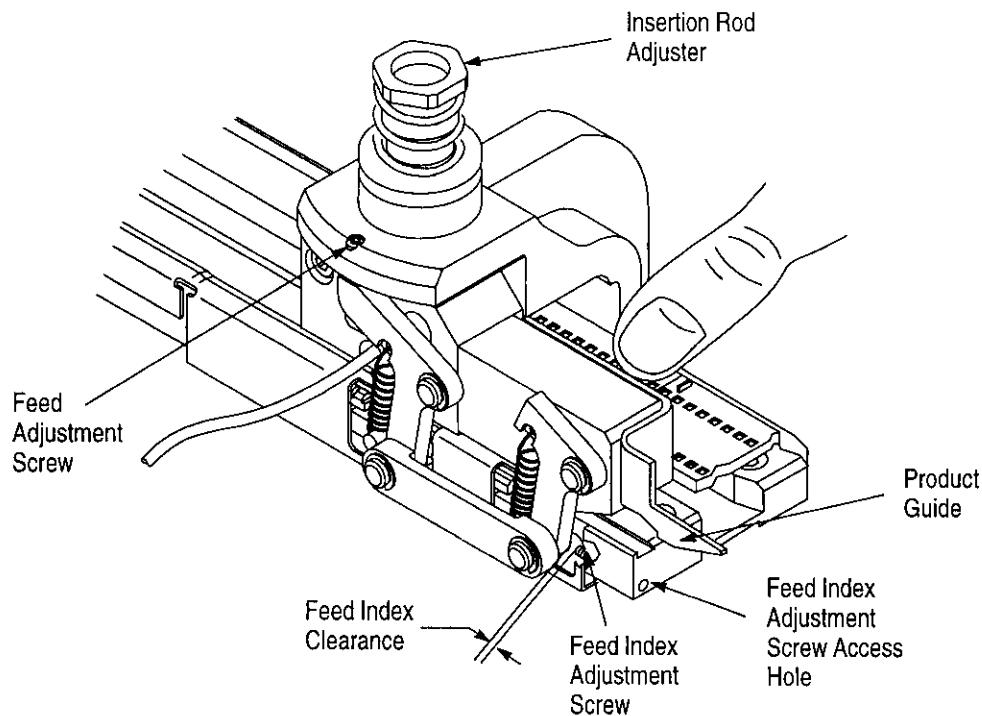

Figure 3
*Product guide (PN 679689-1 – see Figure 3) is to be installed when the MTE tube feed assembly is used to terminate connectors that are unloaded from tube PN 661042-1. This guide is to be removed (and saved) when the connectors are unloaded from tube part numbers 112150-1 and 112151-1.*
*Receptacle and nonlatching pin housing connectors are packaged in either tube part number 112150-1 or 112151-1 and therefore do not require the installation of the product guide. Remove and retain the product guide (see Figure 3). The guide must be removed to prevent damage to the connectors being fed to the insertion station.*
Shrouded pin housings are packaged in tube part number 661042-1 and require the installation of the product guide (see Figure 3) for smooth feed operation.
### 3.3. Feed Adjustment (Figure 3)
- To retract the contact, turn feed adjustment screw CLOCKWISE and pull back on the housing. See Figure 3.
### 3.4. Feed Index Adjustment (Figure 3)
To adjust the feed index adjustment screw, use a .050 inch hex wrench entering at right end of the track. A clearance of approximately 3.00 mm [.118 in.] between right feed pawl and the end of the adjustment screw is required when wire inserter is in the up (idle) position (refer to Figure 3). To obtain or to verify this clearance, proceed as follows:
### 3.5. Wire Insertion Depth Adjustment (Figure 3)
Wire Too Deep In Contact Slot — Turn adjuster 1/6 revolution CLOCKWISE (see Figure 3) to decrease the wire insertion depth by approximately .20 mm [.008 in.] Make a test termination following the procedures in Paragraph 3.2, Test Termination. Inspect the termination according to the procedures outlined in Section 5, TERMINATION INSPECTION. Re-adjust if necessary.
Wire Not Deep Enough In Contact Slot — Turn adjuster 1/6 revolution COUNTERCLOCKWISE (see Figure 3) to increase the wire insertion depth by approximately .20 mm [.008 in.] Make a test termination following the procedures in Paragraph 3.2, Test Termination. Inspect the termination according to the procedures outlined in Section 5, TERMINATION INSPECTION. Re-adjust if necessary.